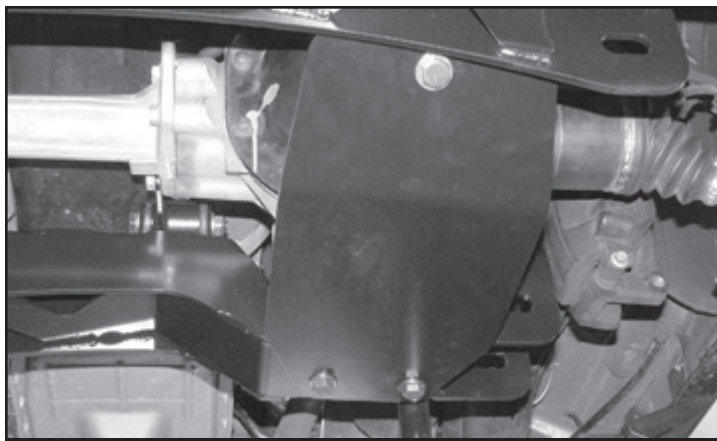

FIGURE 44 - STEP 47
47. Locate the Fabtech skid plate (FT30377BK) the skid plate will span the distance between the front and rear crossmembers directly under the front differential. Attach the end of the skid plate with the single hole to the tab on the back side of the front crossmember using one 1/2" - 13 x 1-1/4 bolt, washers and a C-lock nut. Lift up the back side of the skid plate and install it to the rear crossmember using two 1/2" - 13 x 1-1/4 bolts, washers and a C-lock nut. Torque all hardware to 127 ft-lbs. Torque crossmember bolts to 240 ft-lbs. **SEE FIGURE 44**